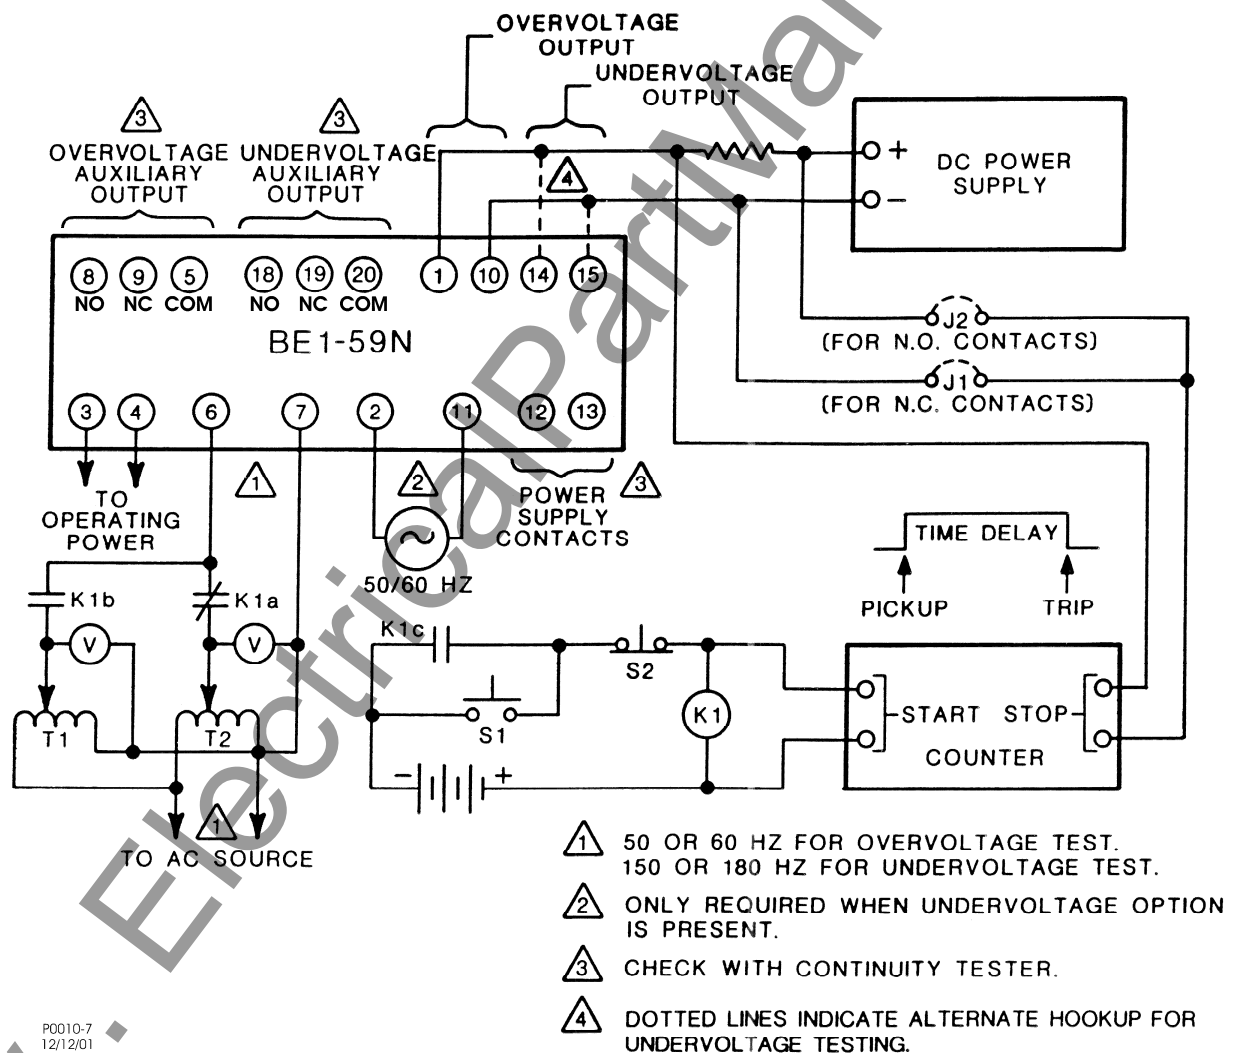

Figure 5-1. Typical Test Setup
Step 1. Perform test setup (Figure 5-1) and apply power to the relay. Verify that the POWER LED is ON, and that the power supply status contact is open.
- Step 10. Press and release S2 (of Figure 5-1) to assure that K1 is de-energized. Reset the timer. Press S1. The timer recorded by the counter should be within 5% or 25 milliseconds (whichever is greater) of the time given in Figure 1-3 for the particular  $\Delta V$  of the test.
- Step 19. Connect a 150/180 Hz source to relay terminals 6 and 7 as shown in Figure 5-1. Note that this setup allows rapid switching from a voltage that is approximately twice pickup to a voltage that is  $\Delta V$  lower than pickup. The switching also provides a means of precisely verifying the time between the voltage step change and the resulting output response.
- Step 23. Press and release S2 (of Figure 5-1) to assure that K1 is de-energized. Reset the timer. Press S1. The time recorded by the counter should be within 5% or 25 milliseconds (whichever is greater) of the time given in Figure 1-4.